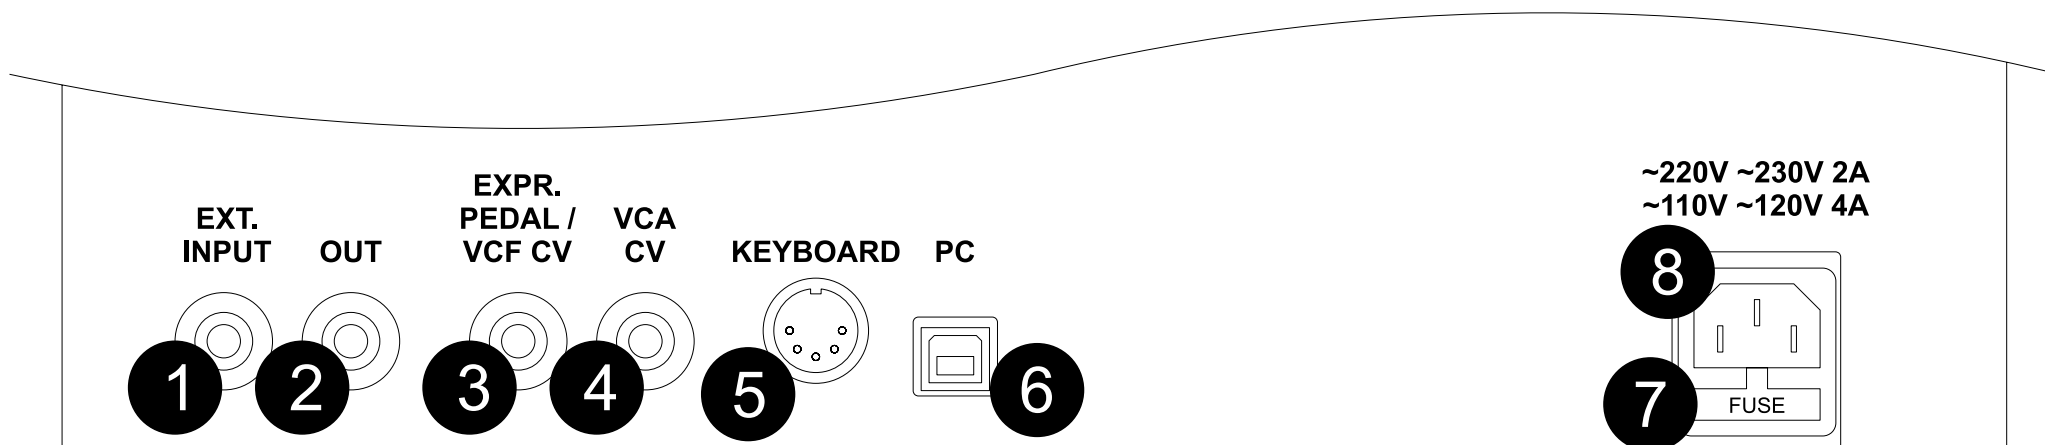

Fig. 4. External commutation panel.
External commutation panel (Fig. 4.):
- Connect the KEYBOARD IN (Fig. 4. 3) with the output of a MIDI keyboard or sequencer;
- Connect the mains power cord (Fig. 4. 6);
- Connect the output (Fig. 4. 1) to the input of the amplifier device using an instrumental connecting cable